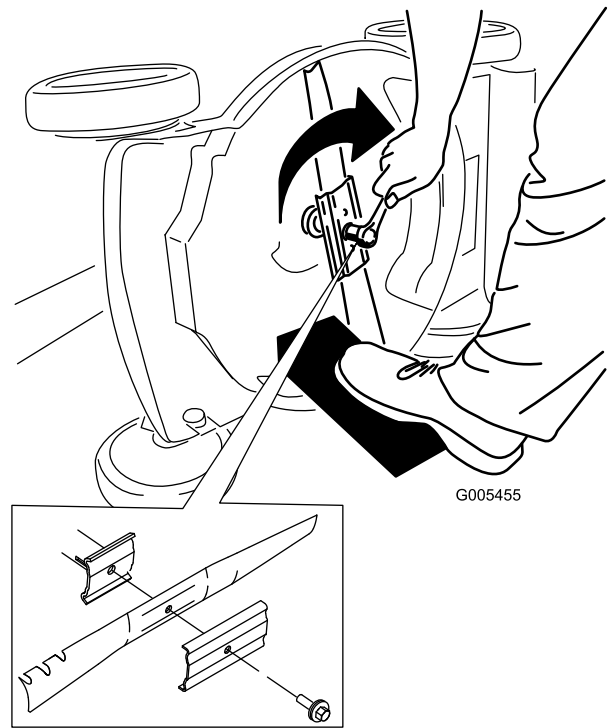

Figure 50
- Install the new blade and all mounting hardware (Figure 50).